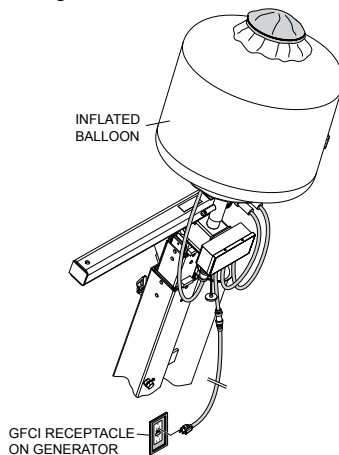
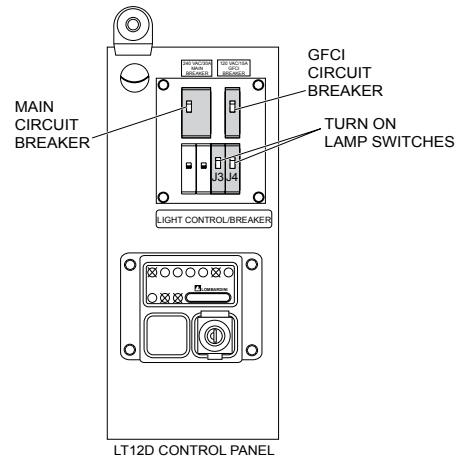

Figure 12. Applying Power to the Balloon
Figure 13. Lamp Switches (LT12D Only)
5. Plug the power cable into the GFCI receptacle on the generator as shown in Figure 12. Place the GFCI and main circuit breaker switches on the control panel in the ON position. See Figure 13. The balloon should begin to inflate.
6. Turn on the two switches on the light tower that correspond to the lamp connectors on the T-bar (J3 and J4). See Figure 13. Confirm that the two lamps on the balloon turn on. Procedure will vary slightly for the MLT series light towers.
1. Turn lamps OFF and allow to cool for at least five minutes. See Figure 13.